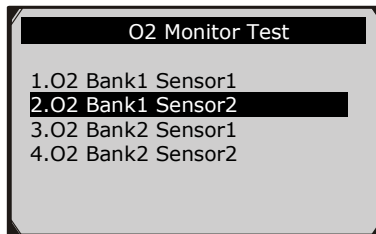

Figure 5.23
- 3) Use the **UP/DOWN** scroll button to select O2 sensor from **O2 Monitor Test** menu and press **OK** button. (Figure 5.23)